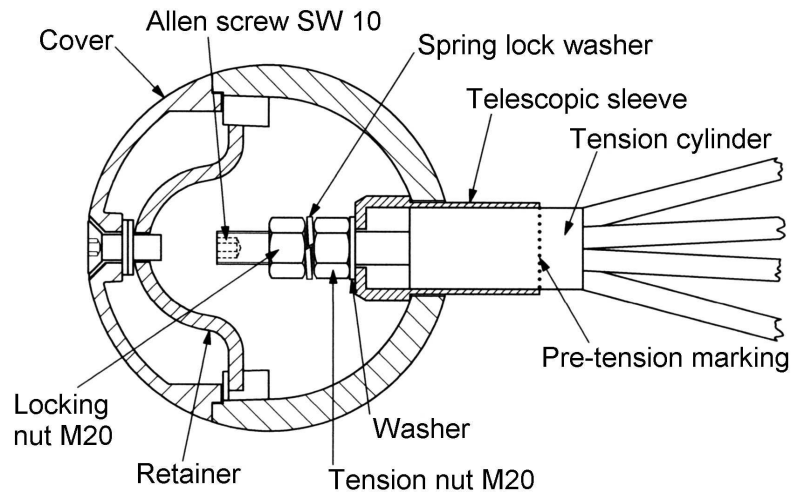
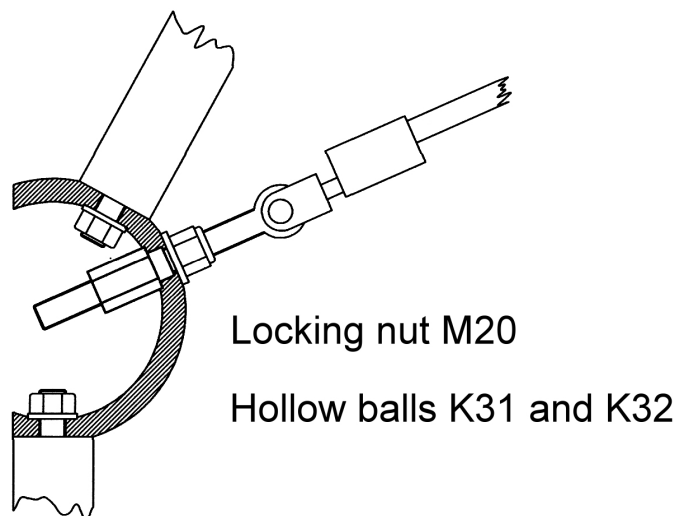

Figure 16
Figure 17
Preassembly of the space net begins by screwing the tension systems into the hollow balls of **K30** (Figures 9, 10 and 16). In doing this, the tensioning cylinder is inserted into the telescopic sleeve with the M20 bolt and mounted from the inside with the tension nut M20 (Size 32) with approximately 5 turns of the thread. After this, the tension screws for hollow balls **K31** and **K32** (Figures 9 and 10) are made which also mount the tension rope via the fork screws (Figure 17).
Firstly the aligned connection on the hollow ball **K29** is to be solidly secured. Tensioning of the space net begins on the hollow balls of **K31** and **K32** which are screwed to the locking nut (Figure 17) using the special spanner supplied. After doing this tensioning is made on **K30** hollow balls up to the marking (Figure 16). Finally, the space net must be under a **tension having an even strength throughout**.
After tensioning, the tension nuts are to be locked on all **K30 knot points** using the locked nuts and spring lock washer provided (M20 Size 32). **In order to tighten the locking nut, the Allen key Size 10 must be inserted into the M20 screw and held (Figure 16).** The locking nuts Size 30 (**Figure 17**) are to be inspected once again to ensure that they are solidly secure at the **K31 and K32 knot points**. Finally all knot points from **K29 to K32** are to be closed by screwing the knots with the prepared covers via a clamping screw (**Figure 16**). In doing this please ensure that the cover is positioned evenly so that our company logo is readable. Thank you.
- The first re-tensioning must be carried out after one to two weeks. Re-tensioning is made via the tension nuts (M 20) in the hollow balls. Firstly the **balls K31 and K32** are re-tensioned. After removing the cover using an Allen key Size 10 and loosening the locking nut M20 Size 30 (Figure 17) on the outside of the ball, the inside tension nut Size 30 is re-tensioned with the box spanner. It is imperative that the **locking nuts** be solidly tightened **after re-tensioning**. After this, further re-tensioning is made at the **K30 knots** and should be carried out evenly. In doing this the inside locking nut M20 Size 32 is loosened after removing the cover and re-tensioned at the tension nut M20 Size 32 **beyond the pre-tension marking** using the special box spanner supplied. After re-tensioning, the tension nuts on the K30 knots must be **locked again** with the locking nuts. **Please note to the spring lock washer between the nuts. In order to loosen and secure the tension nut and locking nut M20 Size 32, the bolt M20 can be held with an Allan key Size 10 (Figure 16).** Finally the open hollow ball is once again closed with the cover. Please ensure that the cover is placed evenly so that our company logo is readable. Thank you.
- Check the locking nuts (**Figure 17**) to ensure solid seating at the **K31 and K32** hollow balls.